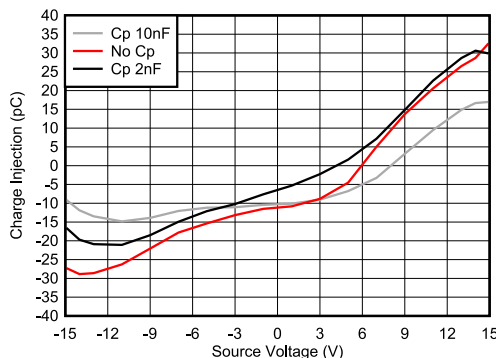

图 8-3. Charge Injection Compensation
The TMUX7219-Q1 contains specialized architecture to reduce charge injection on the source (S_x). To further reduce charge injection in a sensitive application, a compensation capacitor (C_p) can be added on the drain (D). This will ensure that excess charge from the switch transition will be pushed into the compensation capacitor on the drain (D) instead of the source (S_x). As a general rule of thumb, C_p should be 20× larger than the equivalent load capacitance on the source (S_x). 图 8-3 shows charge injection variation with source voltage with different compensation capacitors on the drain side.